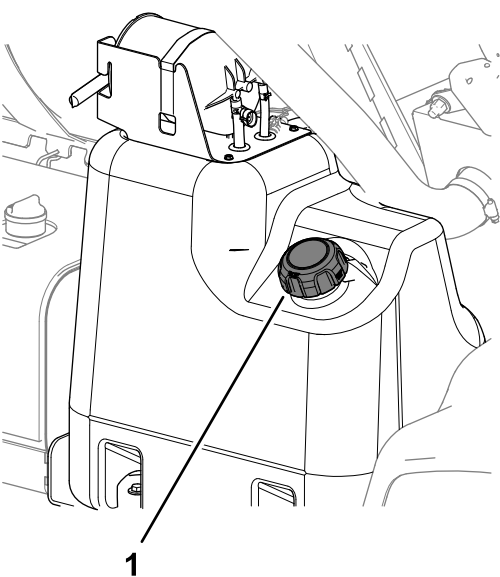

Figure 64
- Clean the area around the fuel-tank cap (Figure 64).